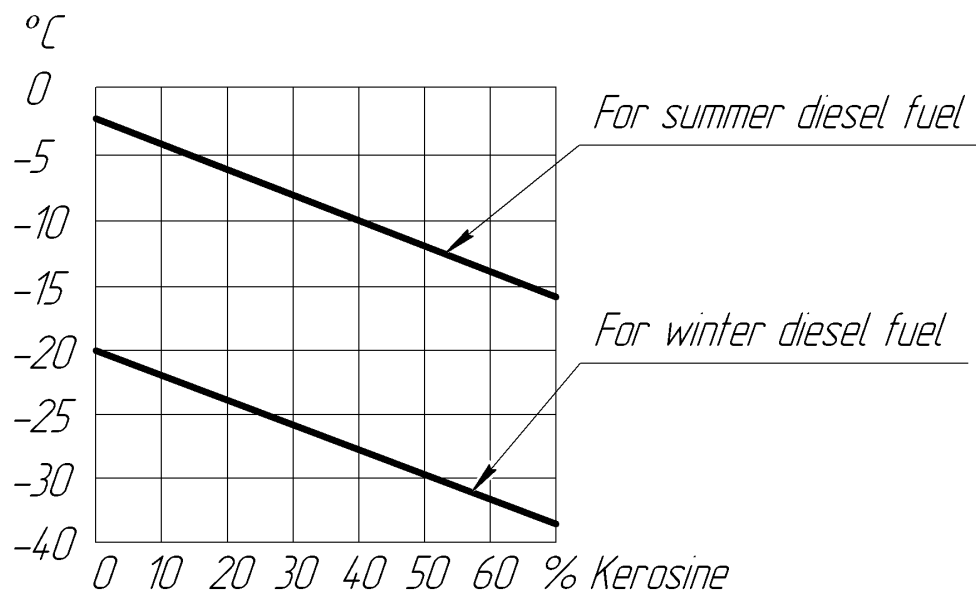

Figure 12 - Amount of kerosene mixed with diesel fuel, depending on the ambient temperature.
- 12.2. Reliable operation of heater depends on the type of fuel used. Type of fuel should be in accordance with GOST 305-82, depending on the ambient temperature (see Table 5). May be used and the mixture of fuel according to Figure 12.